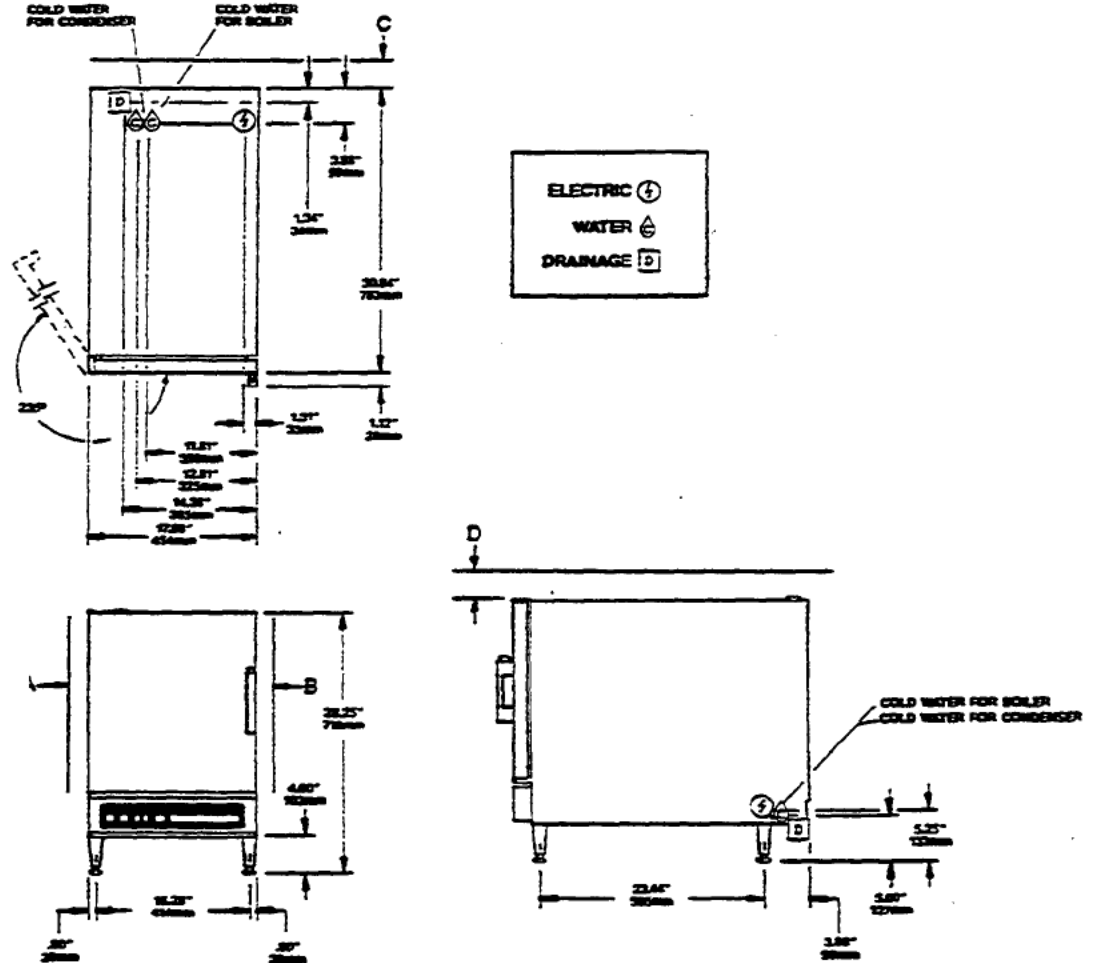

Figure 2-4. SteamCraft V Dimensions and Clearances
- Figure 2-4 illustrates a left hand door hinge. A right hand hinge (model # DHR-5) is also available for the SteamCraft V.
- Note in figure 2-4 that a 3" clearance is required above the SteamCraft V. Do not store articles on top of the unit.